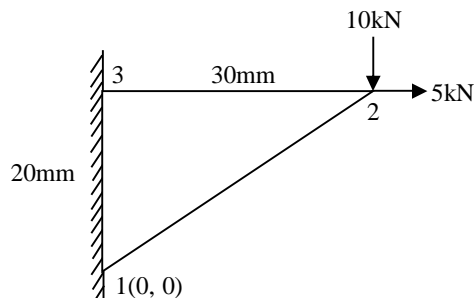

Fig. 8 Q-5(b)
- (b)** For the plate configuration shown in fig. 8, determine the deflection at the point of load application using a one-element model. Let $t = 10 \text{ mm}$, $E = 70000 \text{ MPa}$ and $\nu = 0.25$. Assume plane stress conditions. 07